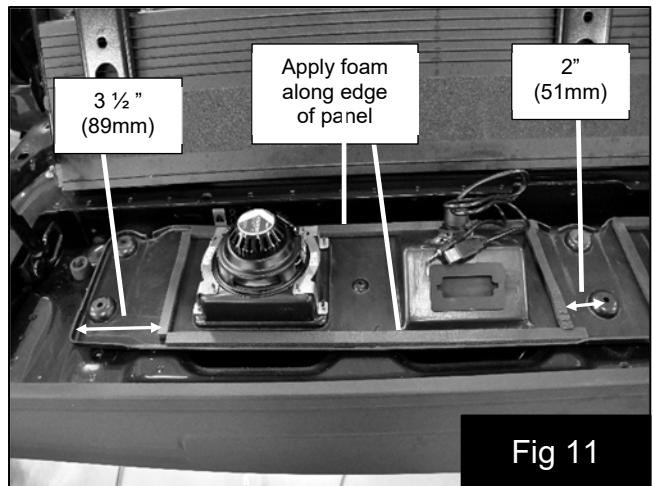

Fig 11
16. Install the supplied foam onto both sides of the speaker baffle as shown in Fig 11